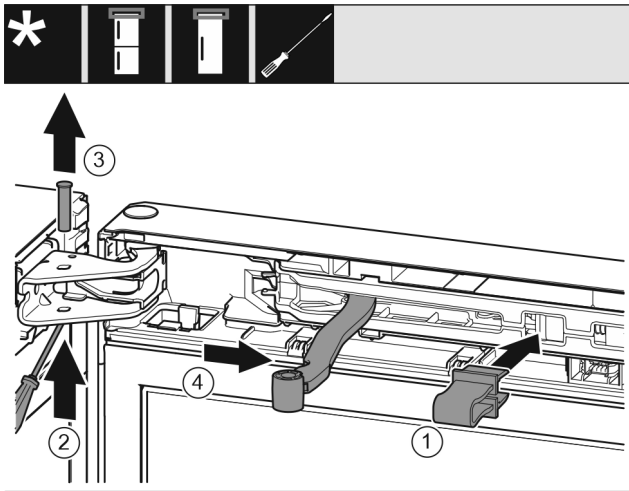

Fig. 11
- Snap the locking device Fig. 11 (1) into the opening.
- Pull out the pin Fig. 11 (2).
- Pull out the pin Fig. 11 (3) upward.
- Turn the joint Fig. 11 (4) towards the door.